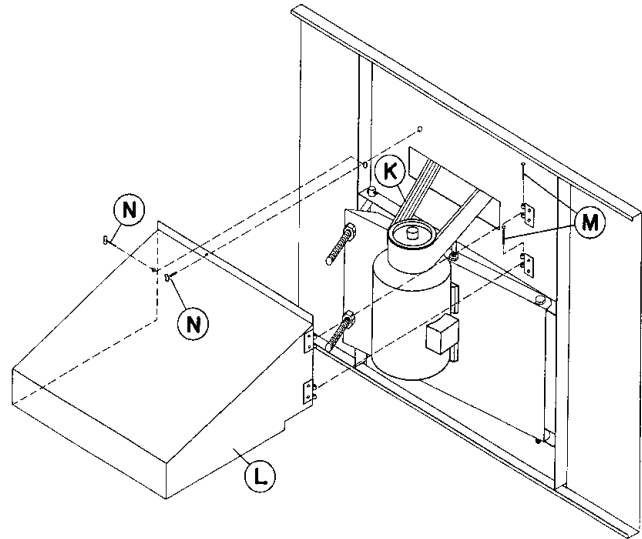

Figure 15 - Motor Guard and Powerband Belt Installation.
7. Install Powerband belt **K** (Figure 15) around fan sheave and motor sheave. Tighten belt by adjusting nuts on "J" bolts. Do not over tighten the belts. The center of the belt should deflect approximately 3/4" with moderate hand pressure.
9. To install Motor Guard **L**, match up hinges and install hinge pins **M**. See Figure 15.
10. Close Motor Guard and install (2) wing bolts **N**.